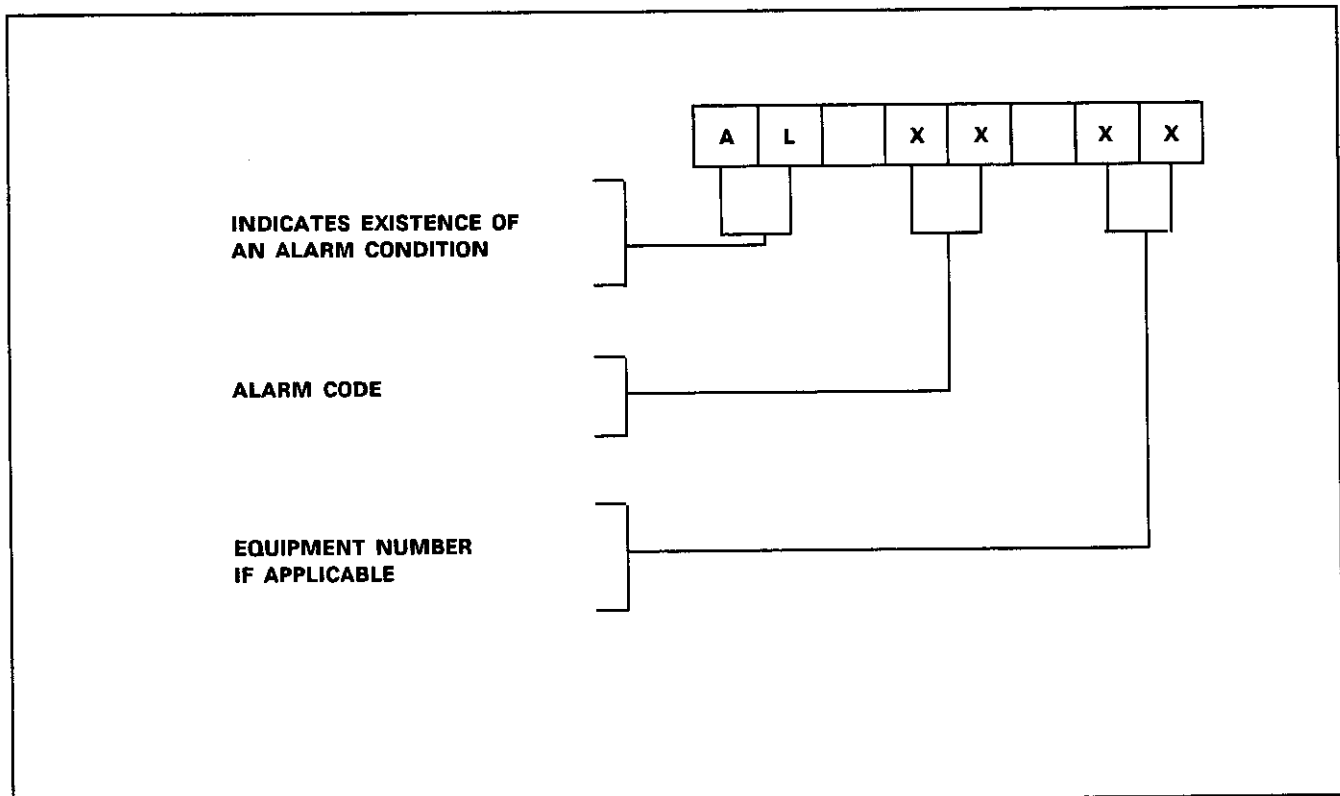

Figure 2-3 Alarm Display
2.14 A Minor Alarm is identified as follows. When the ALARM key is pressed on the SX-20 Attendant Console, the alarm is displayed (refer to Figure 2-3) in the Call Status Display as long as the ALARM key remains depressed. The alarm is displayed in the Call Status Display (Figure 2-3) on the Cabinet and/or the Remote Display as long as the Test Line remains off-hook.